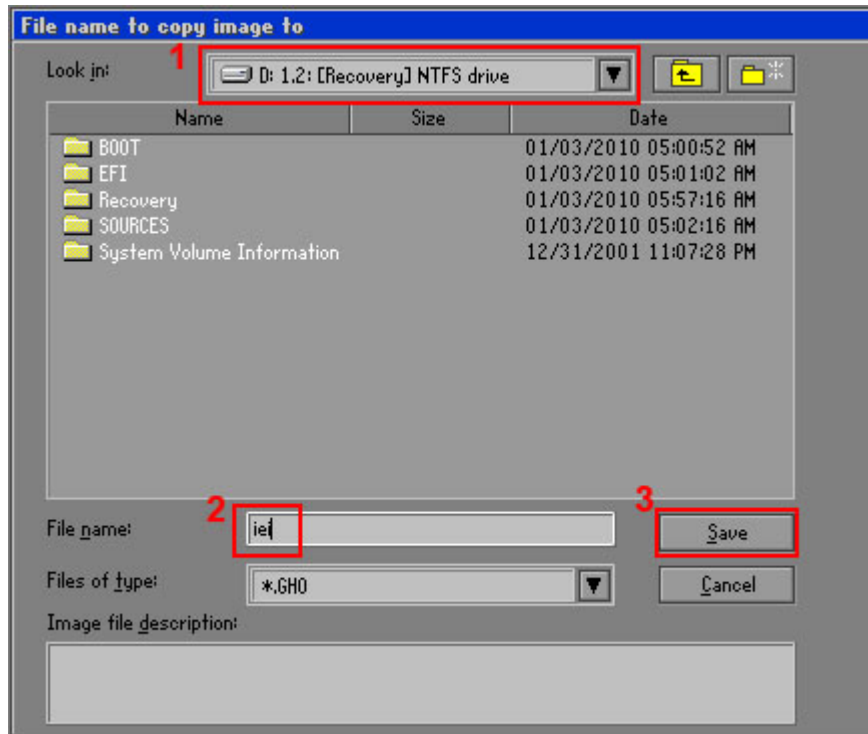

Figure A-16: File Name to Copy Image to
**Step 7:** Select **1.2: [Recovery] NTFS drive** and enter a file name called **iei** (**Figure A-16**). Click **Save**. The factory default image will then be saved in the selected recovery drive and named **IEI.GHO**.